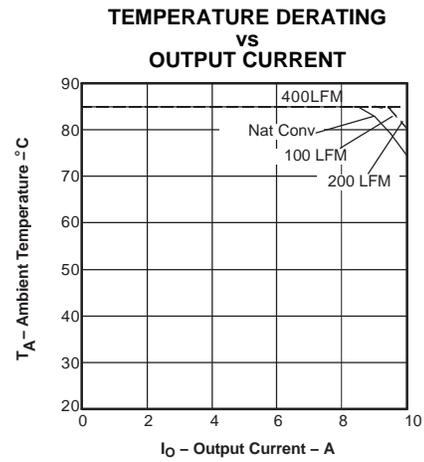

Figure 4.
- (2) SOA graphs represent the conditions at which internal components are at or below the manufacturer's maximum operating temperatures. Derating limits apply to modules soldered directly to a 4 in. x 4 in., double-sided PCB with 1 oz copper. For surface mount products (AS and AZ suffix), multiple vias (plated through holes) are required to add thermal paths around the power pins. Please refer to the mechanical specification for more information. Applies to Figure 4.
- (3) The peak-to-peak output ripple voltage is measure with an external 10  $\mu\text{F}$  ceramic capacitor on the output.